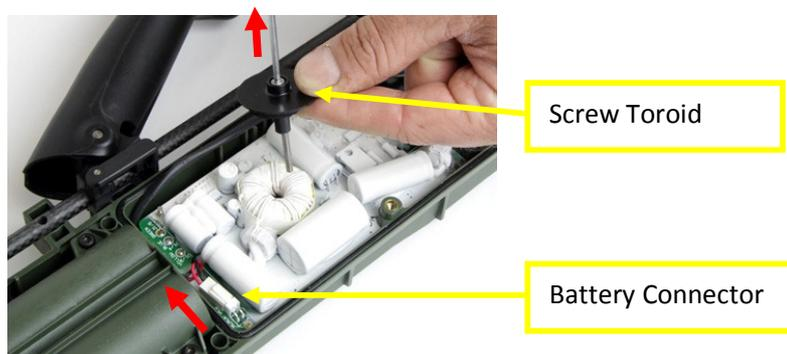

Figure 33: Screw Toroid & Battery Connector
- Unscrew the screw toroid from the main PCB, using a 2.5mm hex key driver. Figure 33.